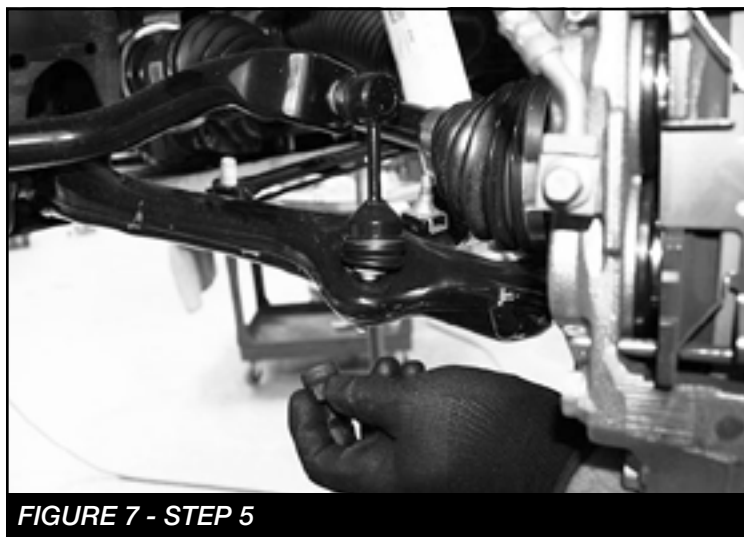

FIGURE 7 - STEP 5
5. Remove and save the sway bar link nut from the bottom side of the lower control arm. **SEE FIGURE 7**